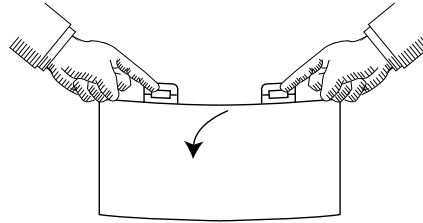

Figure 1
1. Remove the outer battery compartment door by pressing downward on the two tabs as shown in figure 1.